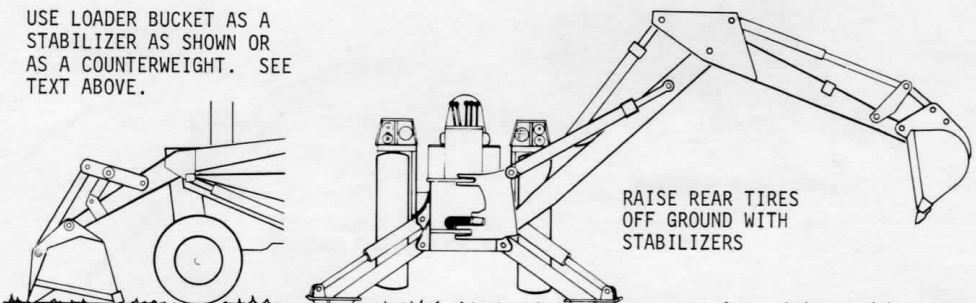

Figure 54 - Machine Ready For Digging
2. Lower the stabilizers so that the rear wheels are just off the ground and the machine is level, Figure 54. The rear wheels should not rest on the ground when digging as this reduces machine stability and causes unnecessary loading of the rear tires.
3. The loader bucket may be used as a secondary stabilizer or counterweight, Figure 54. If used as a counterweight, fill the bucket, roll it back and lower to the ground under power. If used as a stabilizer only, completely dump the bucket and lower it to the ground under power.